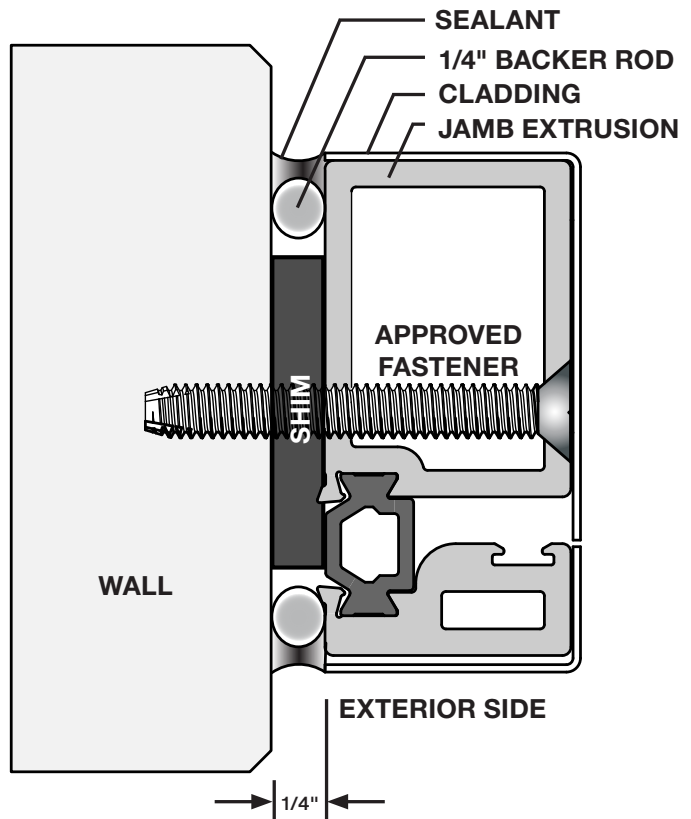

Fig. 9
7. Apply the 2-piece cladding to jamb surfaces using VHB PSA tape. Figure 9